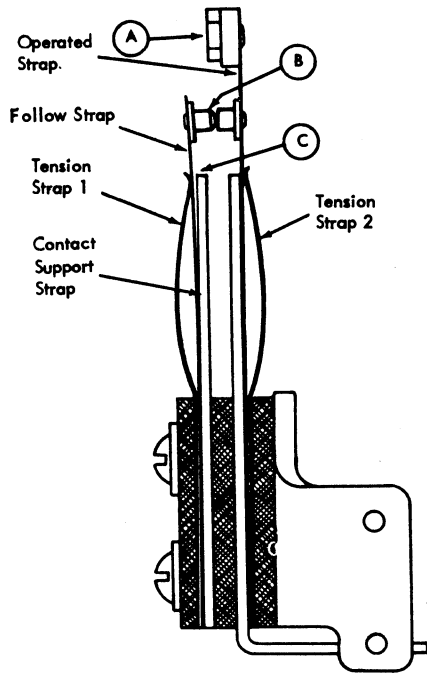

Figure 58. Verifying Contact
point B, Figure 58) lifts the follow strap from its support at C.
3. Form tension strap 2 so that a force of 40 grams $\pm 5-0$ grams (applied at point A, Figure 58) will just open contact.